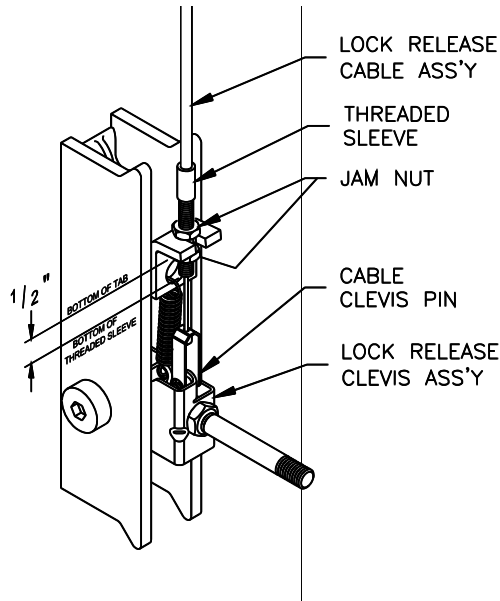

Fig 10 – Power Column Lock Assembly
28) Attach Mechanical Lock Release Cable Assembly to Power Column Lock Release Clevis using the 3/16" diameter x 1/2" long pin and (2) "C" clip retainers, Fig 10.
- 29) Insert threaded sleeve portion of cable assembly in slot located on tab above locking pawl, **Fig 10**. One jam nut should be located on each side of tab. Position threaded sleeve with $\frac{1}{2}$ " of thread below tab as indicated in **Fig 10** and tighten jam nuts.